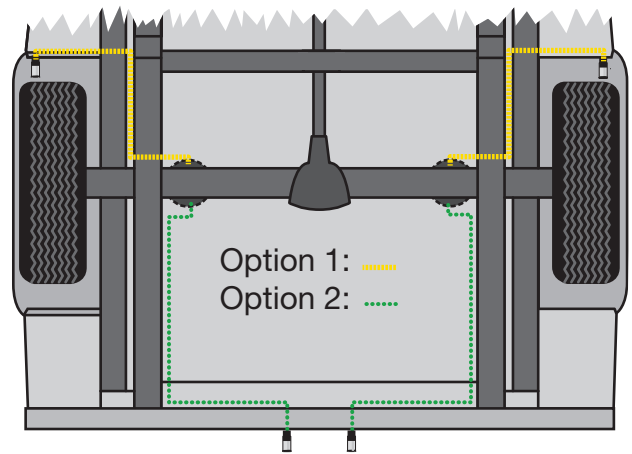

fig. 25
4. Place a 5/16" nut and star washer on the air valve. Leave enough of the inflation valve in front of the nut to extend through the hole and have room for the rubber washer, flat washer, and 5/16" nut and cap. There should be enough valve exposed after installation – approximately 1/2" – to easily apply a pressure gauge or an air chuck (Fig. 25).